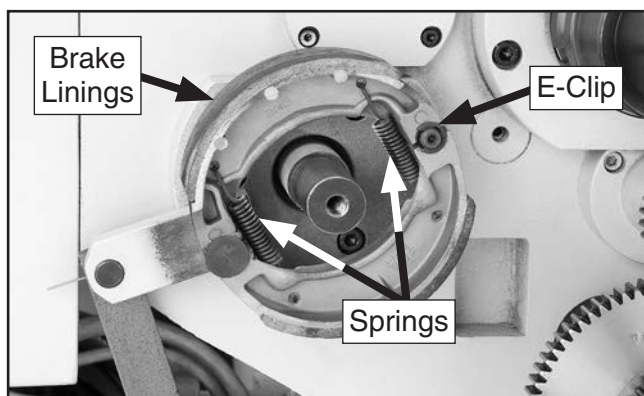

Figure 141. Brake assembly.
5. Step off brake pedal and remove pulley. **Figure 141** shows pulley removed and brake shoes exposed.
7. Put on safety glasses and remove E-clip, springs, and brake shoes shown in **Figure 141**.